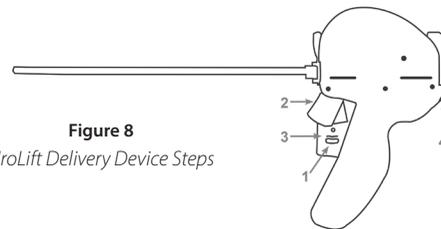

Figure 8
- 6.1 Unlock the Needle Safety Lock (Step 1, Figure 8).
- 6.2 Lightly depress *only* the Needle Trigger to deploy the needle (Step 2, Figure 8). The UroLift System needle extends 33 mm, which is sufficient to reliably access the prostatic capsule based on cadaver and clinical studies.
- 6.3 After the needle is fully deployed, depress the Retraction Lever (Step 3, Figure 8) fully to retract needle and deploy Capsular Tab. Squeeze the Retraction Lever again to ensure complete retraction. By this action, the Capsular Tab is delivered from the tip of the extended needle and is then tensioned back towards the prostatic capsule until it seats on the capsular surface. The needle is now in the retracted (not exposed) position and is contained within the Delivery Device. If complete retraction is not achieved, follow Step 8.1 to manually release the Retraction Lever.
CAUTION: Avoid contact with the Urethral Release (Step 4, Figure 8) button when depressing the Retraction Lever. Contact with the Urethral Release button while depressing the Retraction Lever may result in inadvertent deployment of the Urethral End-Piece and unintentionally cutting the suture.
- 6.5 Press the Urethral Release button toward the telescope (Step 4, Figure 8) to deploy Urethral End-Piece and cut the excess suture. After the Urethral Release button is pressed, the complete implant has been deployed. If the suture is not fully cut after pressing the Urethral Release button, follow Step 8.2 to manually cut the suture. No further implants can be delivered using the same Delivery Device.